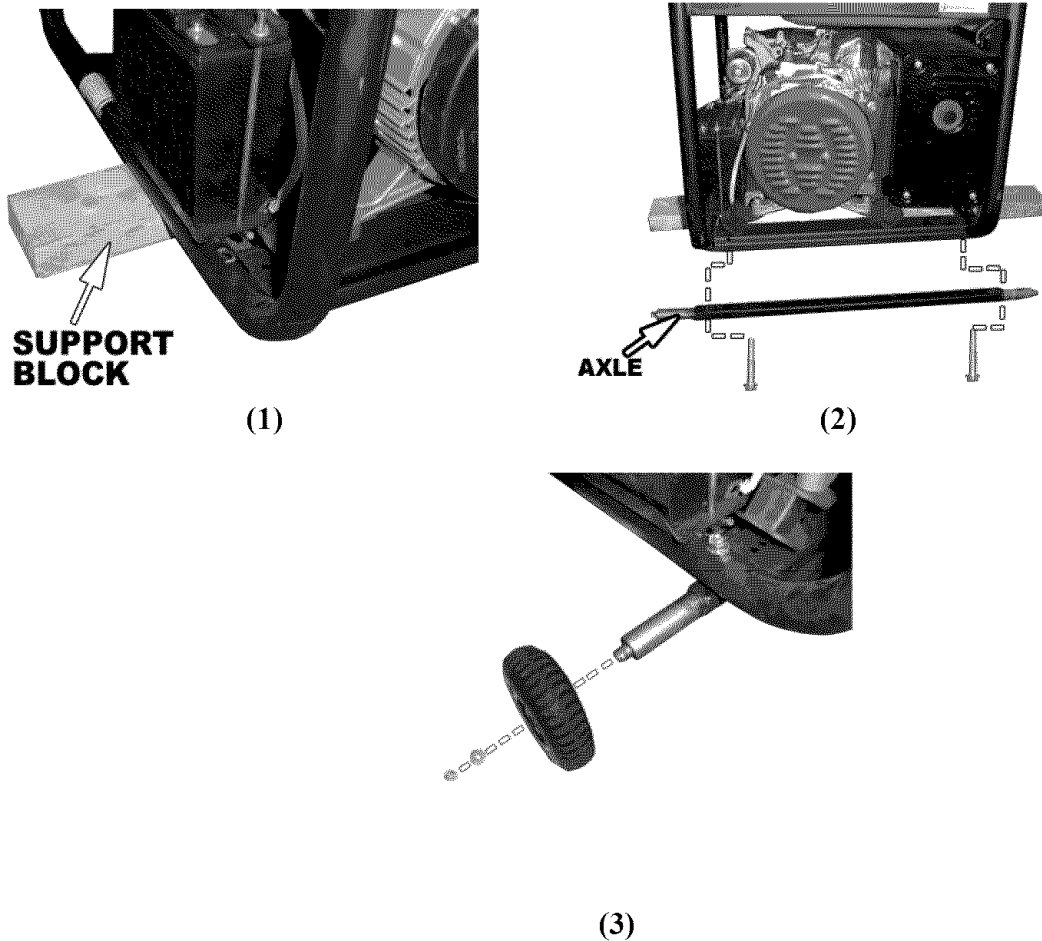

Figure 2- Attaching wheels
1. Place the generator on support blocks such as a scrap piece of wood (see figure 2).